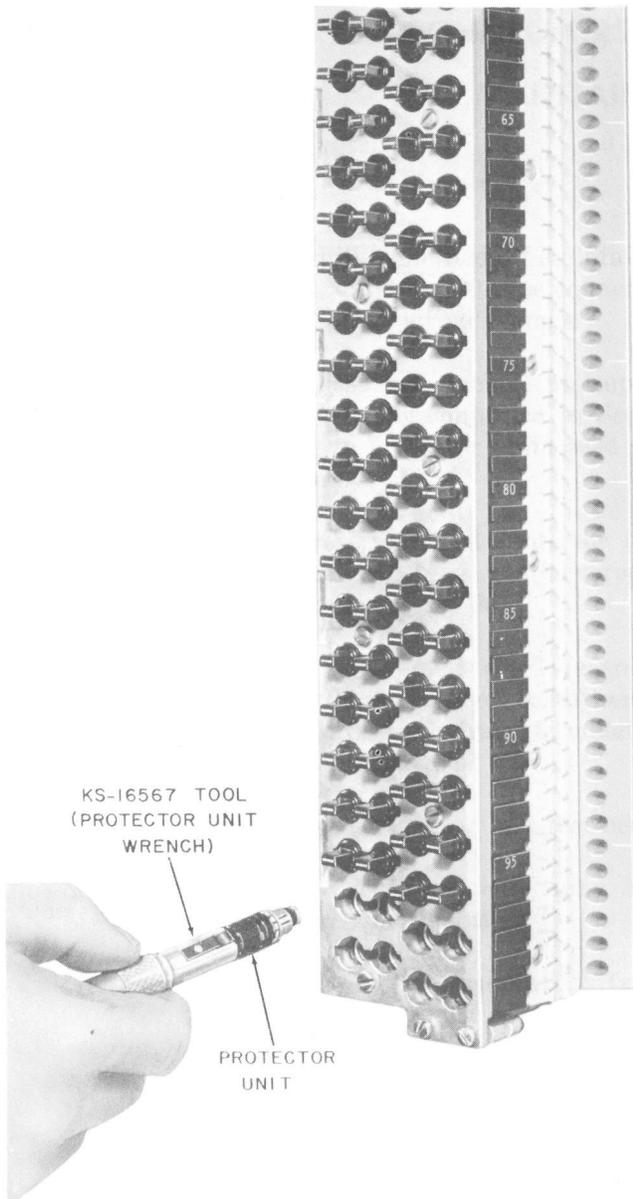

Fig. 1—Installing Protector Unit into 300-Type Protector Block With KS-16567 Tool
1.05 The 300-type connector (Fig. 1) supersedes a similar arrangement, coded the 121-type protector. All references in this section to the 300-type connector shall be considered to apply to the 121-type protector except as indicated in 3.03.
3.01 To remove protector units from circuits which **do not** have abnormally high voltages present, proceed as follows. Grasp the cap of the protector unit with thumb and forefinger and rotate 45° counterclockwise; then withdraw the protector unit. For ease in performing this operation, the KS-16567 tool should be used (Fig. 1).